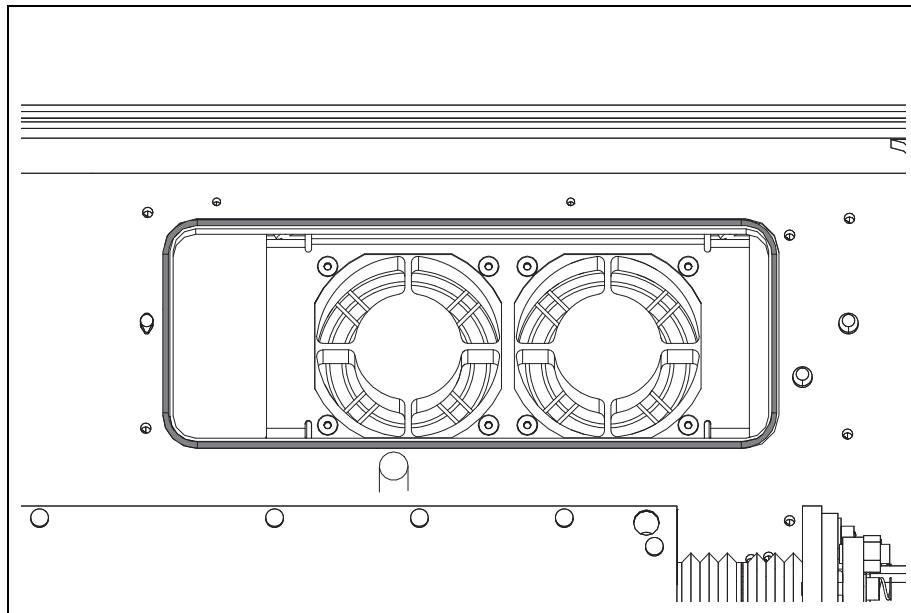

Figure 3.22 Resonator module – 5
- Check the condition and correct fitting of the O-ring (see figure 3.22) on the cooling fans.